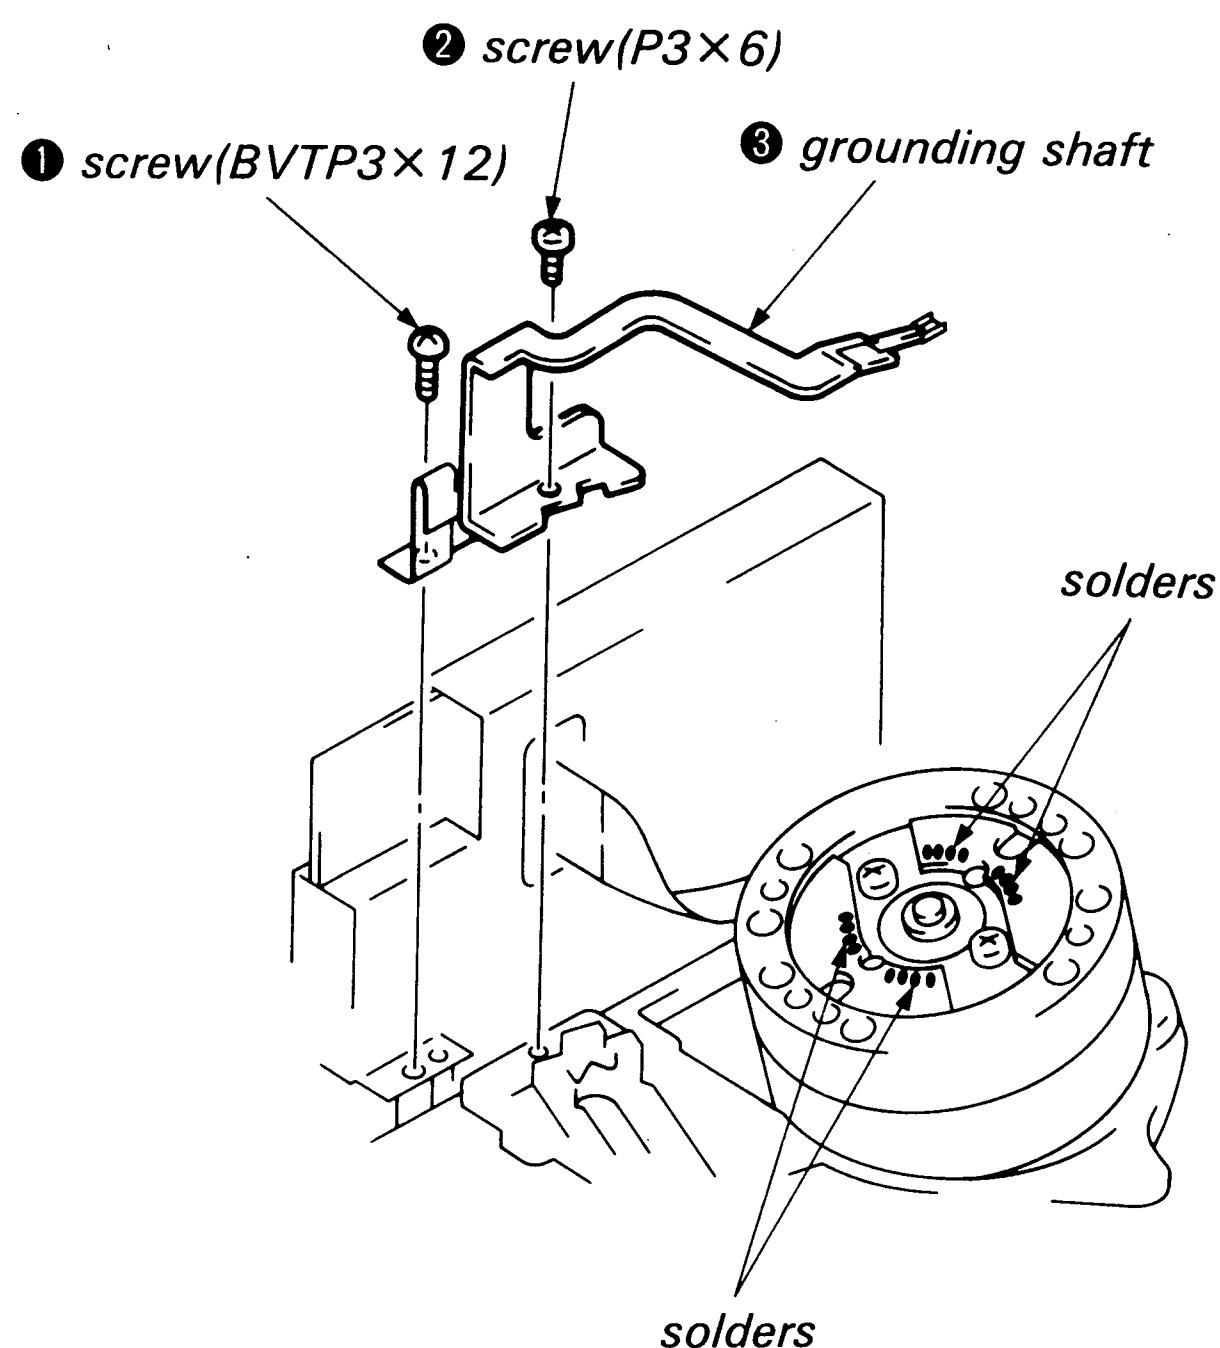

Fig. 4.
- 1) Remove the screw ❶ (BVTP3×12). (See Fig. 4.)
- 2) Remove the screw ❷ (P3×6) and take out the grounding shaft ❸. (See Fig. 4.)
- 7) Tighten a screw ❶ (BVTP3×12). (See Fig. 4.)